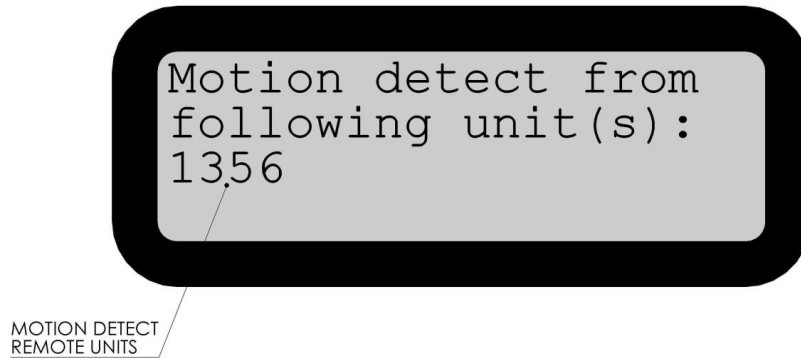

Figure 4-8 Motion Detect Screen
4.2.11. Figure 4-8. About 10 seconds later, the screen will be updated for any units that have detected a motion that was likely caused by the blast.